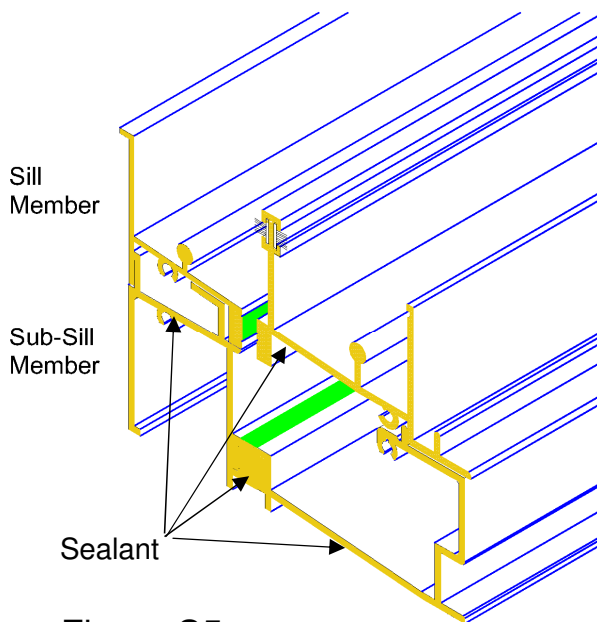

Figure S5
- Apply sealant to each end of the frame sill, as shown in Figure S5.
- Fill the strut pocket with sealant as shown in Figure S5.